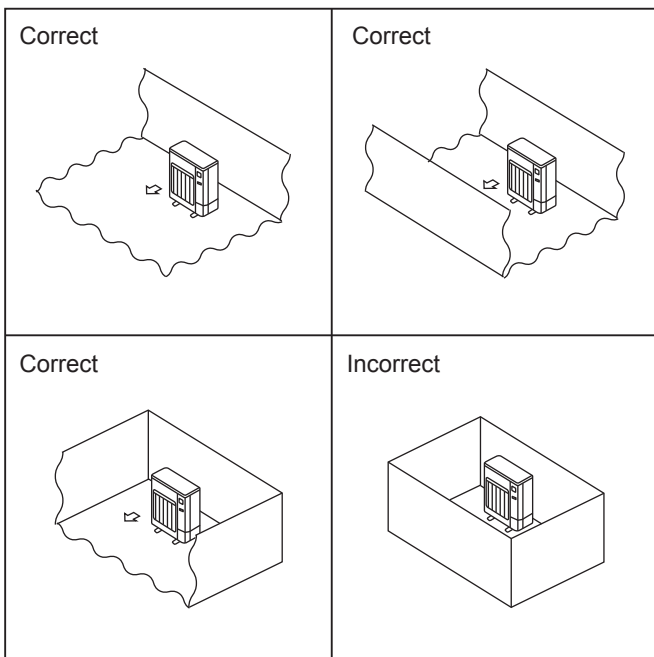

Fig. 2-1
- Ⓞ Install outdoor units in a place where at least one of the four sides is open, and in a sufficiently large space without depressions. (Fig. 2-1)